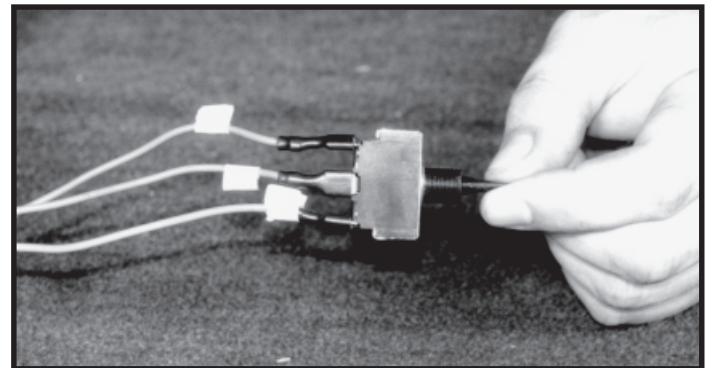

Fig. 14
Step 12: Locate the wires on the wire assemble; 1. One labeled **up**; 2. One labeled **down**; 3. One labeled **12V**. Position the switch so the terminal posts are on the side nearest you. Connect the **down** wire terminal to the **top** post. Connect the 12V wire terminal to the **center** post. Connect the **up** wire terminal to the **bottom** post (Fig. 14).